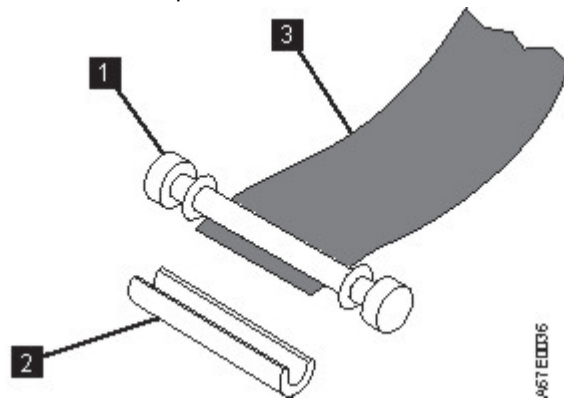

Figure 108. Removing the C-clip from the leader pin
5. On the leader pin (1 in Figure 108 on page 237), locate the open side of the C-clip (2). The C-clip is a small black part that secures the tape (3) to the pin.